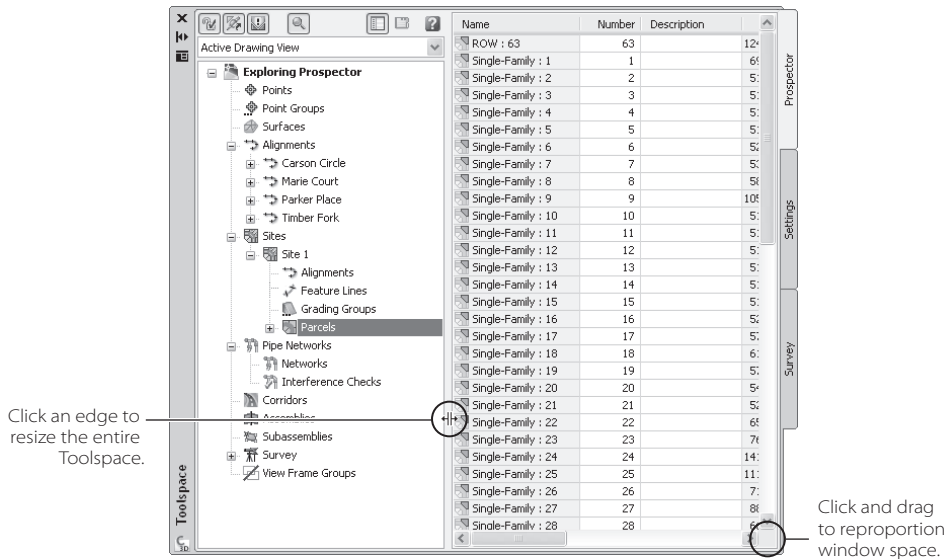

**Figure 1.6**
5. Right-click on the Alignments branch and select Show Preview as in Figure 1.6.